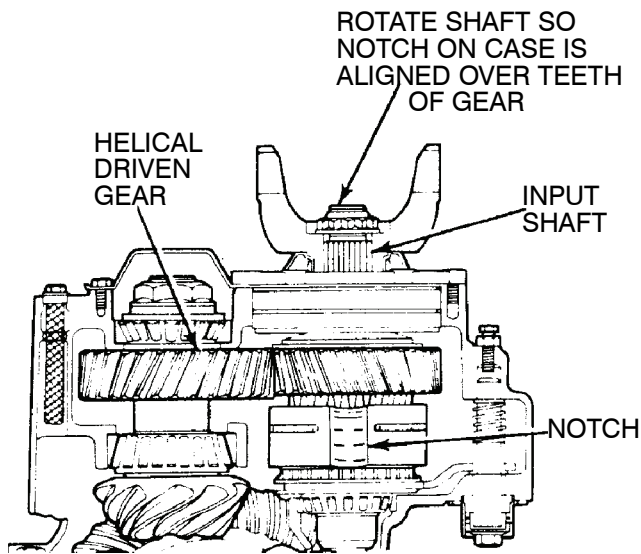
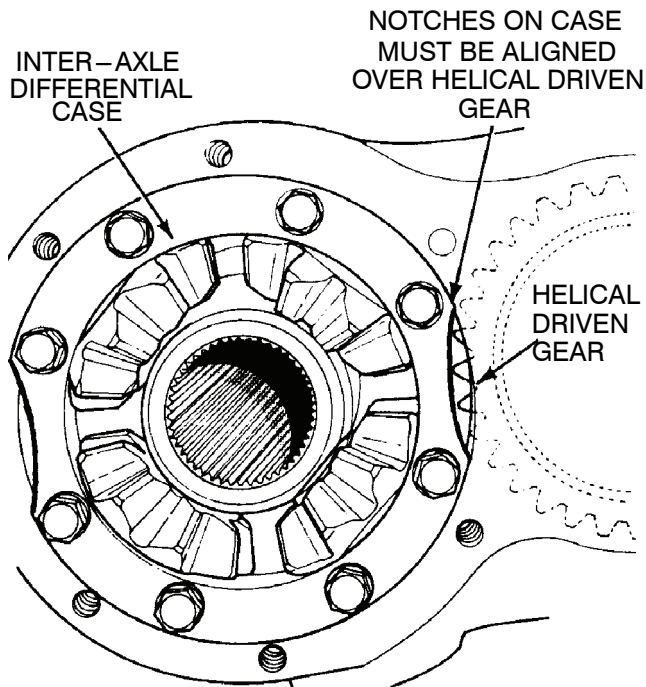

Figure 14. Input Shaft Assembly.
Figure 15. Case to Gear Alignment.
- \* If the input shaft assembly cannot be removed easily, the case of the inter-axle differential must be rotated. Rotate the input shaft until one of the notches on the case is aligned over the helical driven gear. Remove the input shaft assembly from the carrier. Figure 14 and Figure 15.